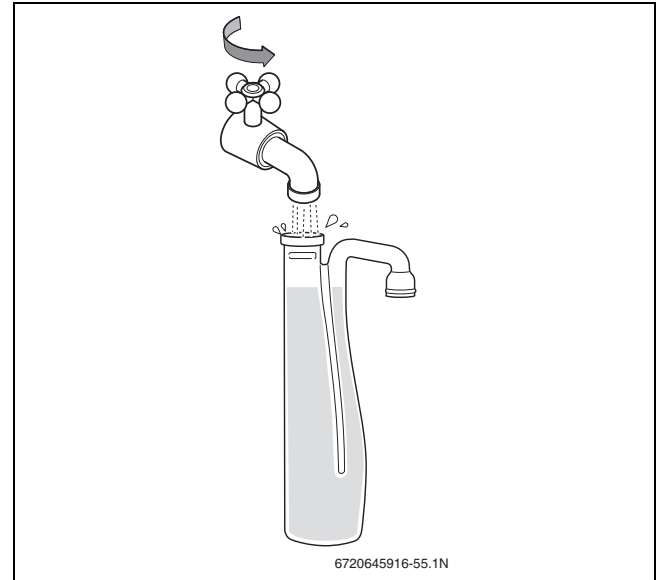

Fig. 58 Filling the condensate trap with water
- Fill the condensate trap with water (→ fig. 58). For disconnecting the condensate trap (→ § 12.3.5, page 47).